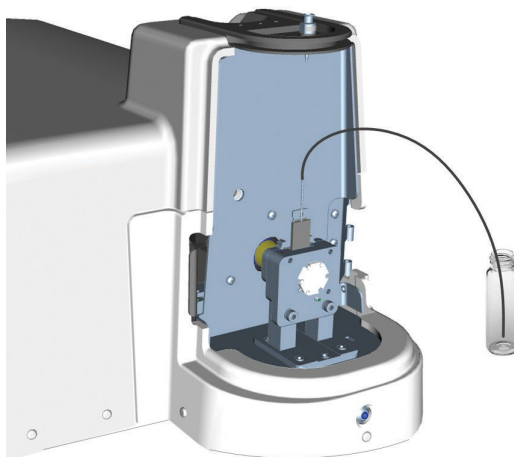

Figure 4-64: Tubing connected to flow cell inlet for the pump calibration procedure.
- 2 Once all liquid is removed from the system and tubing, connect the long piece of tubing to the flow cell inlet as shown in Figure 4-64. Place the other end of the tubing in a vial filled with 10 mL of water.